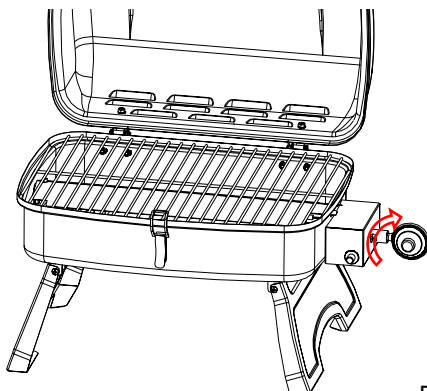

Fig. 12
*Procedure:* Screw clockwise the Regulator onto the Burner as shown in Fig. 12.